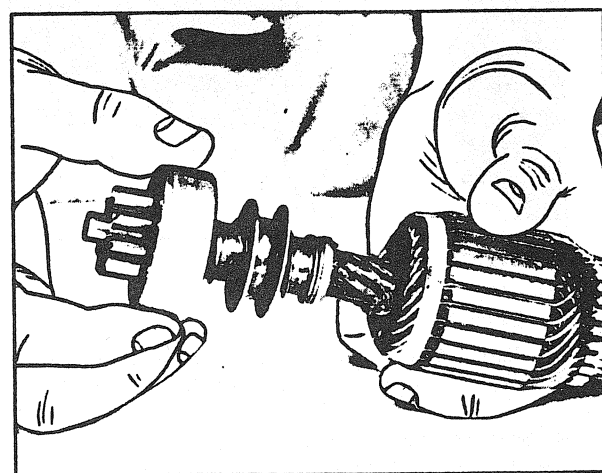

FIGURE 10
- Remove drive end from armature shaft. To prevent damage to the self-lubricating bushing in the drive, remove any burrs that might exist at the edge of the groove carefully with a fine file (Fig. 10).